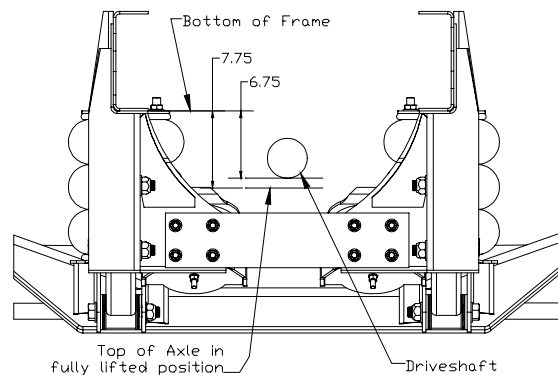

Figure 1
- * The drive shaft and the auxiliary axle(if applicable). (see Figure 1)
- * Air springs when they are at their maximum diameter (one (1) inch minimum clearance).
- f) Check for any interference between the axle and the drive shaft, if applicable. (see Figure 1)